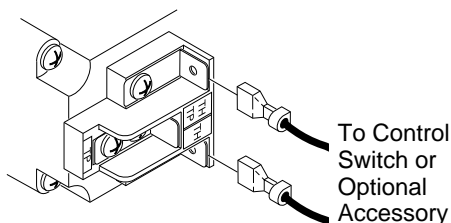

Figure 34 - Control Valve Terminals
1. Connect one terminal of 25 ft. wire for the wall switch to the TPTH terminal on the valve. Connect remaining wire terminal to the TH terminal on the valve. Make sure that the wire terminals are in the positions on the unit as pictured in Figure 34. If wires are not connected as shown, the switch will not work.
3. Connect one terminal of the wire for the wall thermostat to the THTP terminal on the valve. Connect remaining wire terminal to the TH terminal on the valve. Make sure that the wire terminals are in the positions on the unit as pictured in Figure 34, page 16. If wires are not connected as shown the thermostat will not work.
2. Disconnect wires from THTP and TH on control valve that lead to the switch (see Figure 34, page 16). Discard switch plate, screws, and nuts.
6. Connect the wires from the receiver to the valve at TH and THTP (see Figure 34, page 16).